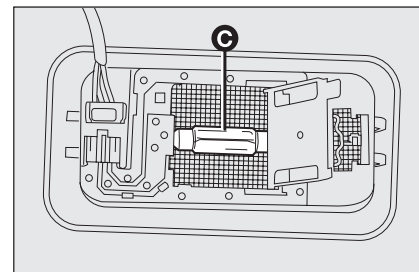

fig. 37
- ☐ replace bulb **C-fig. 37** releasing it from the side contacts. Then, insert the new bulb making sure it is correctly clamped between the contacts;